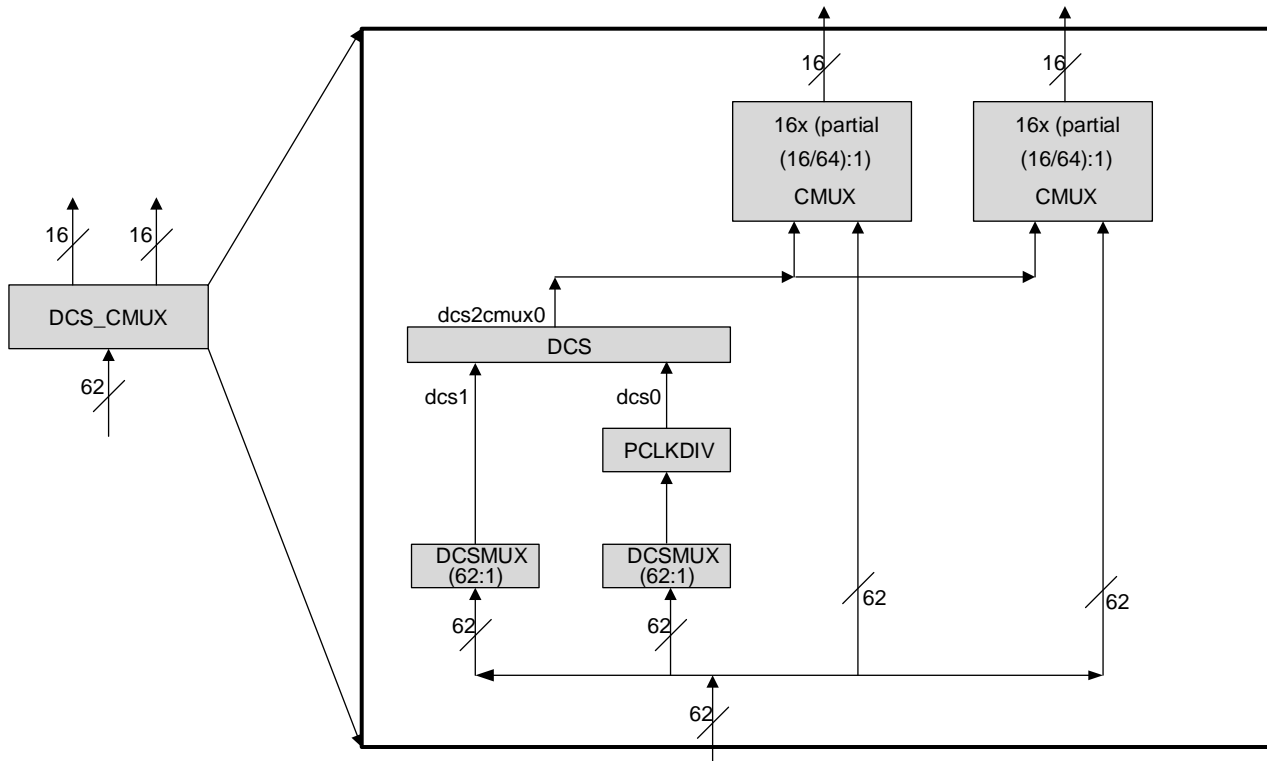
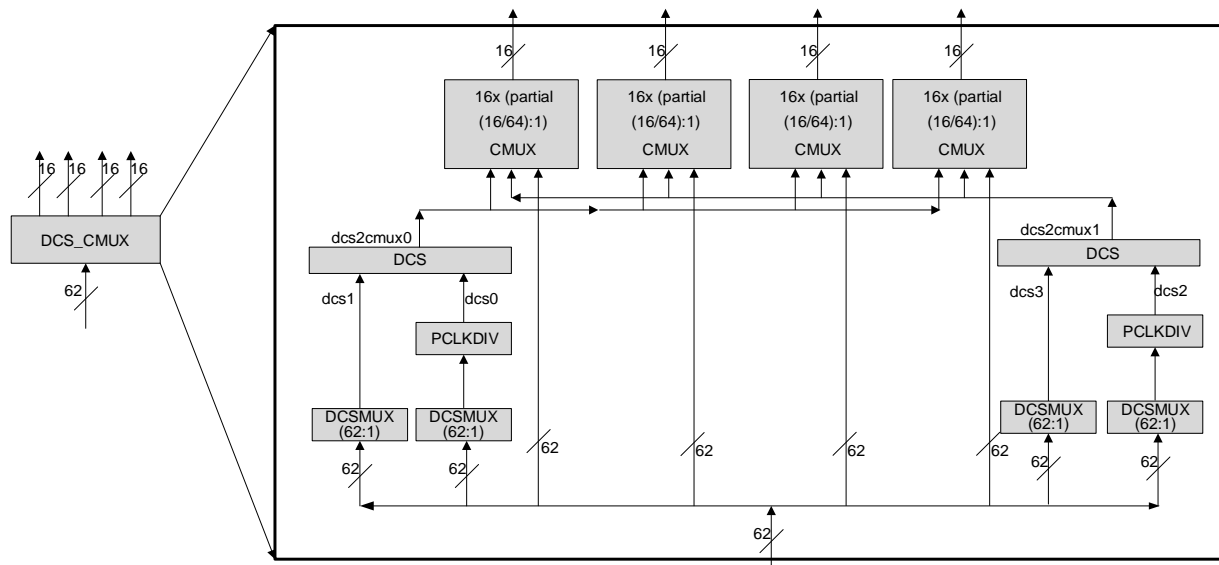

Figure 2.11. DCS_CMUX Diagram for MachXO5-NX-25 Devices
Figure 2.12. DCS_CMUX Diagram for MachXO5-NX-55T/MachXO5-NX-100T Devices
The PCLKDIV supports $\div 2$, $\div 4$, $\div 8$, $\div 16$, $\div 32$, $\div 64$, $\div 128$, and $\div 1$ (bypass) operation. The PCLKDIV is fed from a DCSMUX within the DCS_CMUX block. The clock divider output drives one input of the DCS Dynamic Clock Select within the DSC_CMUX block. The Reset (RST) control signal is asynchronously and forces all outputs to low. The divider output starts at next cycle after the reset is synchronously released. The PCLKDIV is shown in Figure 2.11.
All clock sources are selected and combined for primary clock routing through the Dynamic Clock Selector Center Multiplexor logic (DCS_CMUX). There are one (1) DCS_CMUX blocks per device. For 25k device, each DCS_CMUX block contains two (2) DCSMUX blocks, one (1) PCLKDIV, one (1) DCS block, and two (2) CMUX blocks. For 50T/100T device, each DCS_CMUX block contains four (4) DCSMUX blocks, two (2) PCLKDIV, two (2) DCS block, and four (4) CMUX blocks. See Figure 2.11 and Figure 2.12 for representative DCS_CMUX block diagrams.